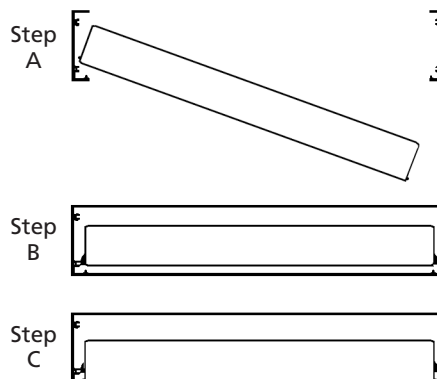

Figure 6
3. Remove one end frame and install heater panel in side frames as shown in Figure 6.